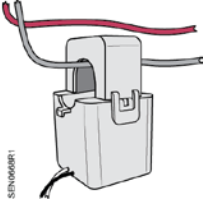

Figure 3. Installed CT.
3. Reconnect the latch; you will hear it click when it is properly closed. The conductor should be in the inside of the CT Window. See Figure 3.